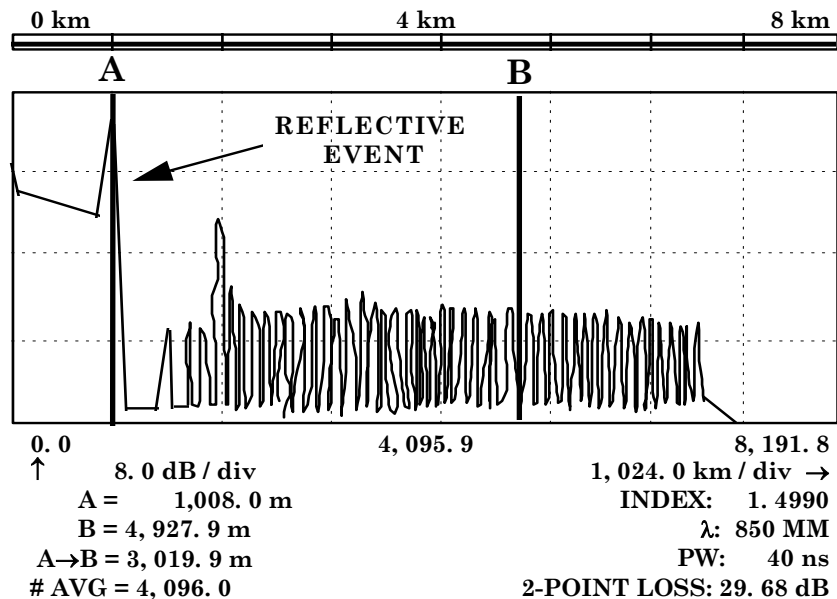

Figure 19. Course placement of cursor A after completing fast scan (TD-260C).
It may be necessary to press **HOR CONT** or **HOR EXP** pushbuttons in order to view **REFLECTIVE EVENT** (fig. 19).
- (5) Adjust **CURSOR A** control to place cursor A at leading edge of **REFLECTIVE EVENT** (fig. 19).